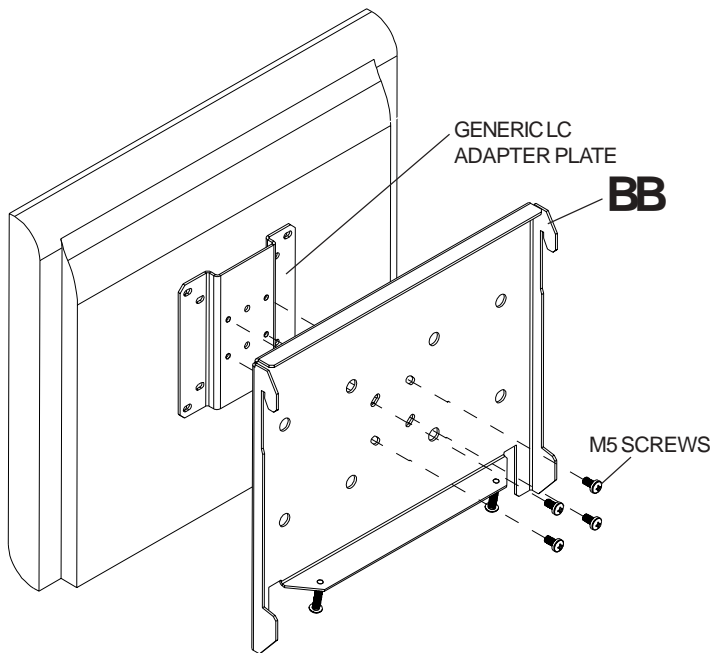

fig. 2.3
- 2 To prevent scratching the screen, set a cloth on a flat, level surface that will support the weight of the screen. Place screen face side down. Attach the interface bracket (**BB**) to the LC adapter plate (sold separately) using four M5 screws provided with plate as shown in figures 2.3 (portrait) or 2.4 (landscape).